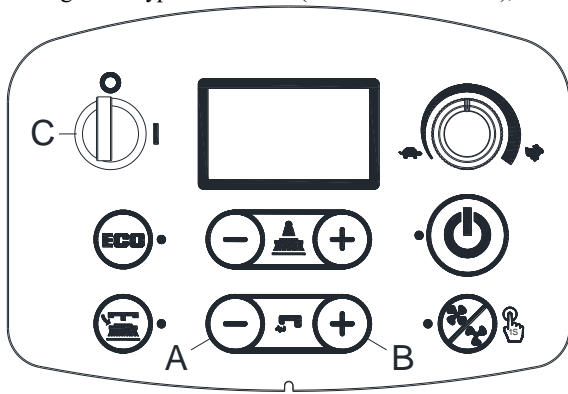
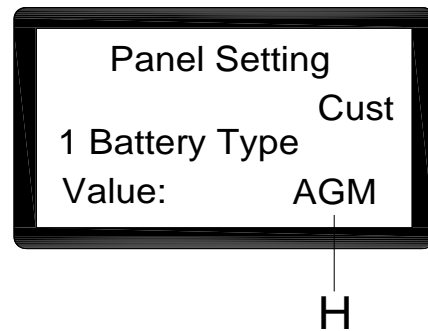

Figure 5
Figure 6
1. Press water flow button "+"(A, Figure. 5) and "-" (B, Figure. 5) at the same time.
2. Insert the ignition key (C, Figure. 5) and turn it to "I".
3. Several seconds later enter to the screen of selecting battery mode (Figure. 6)
4. Press water flow button "-"(A, Figure. 5) and "+"(B, Figure. 5) to select battery mode (H, Figure. 6)
5. 3 seconds later show " Update OK" means setting succeeds, turn on to restart. (C, Figure. 5)